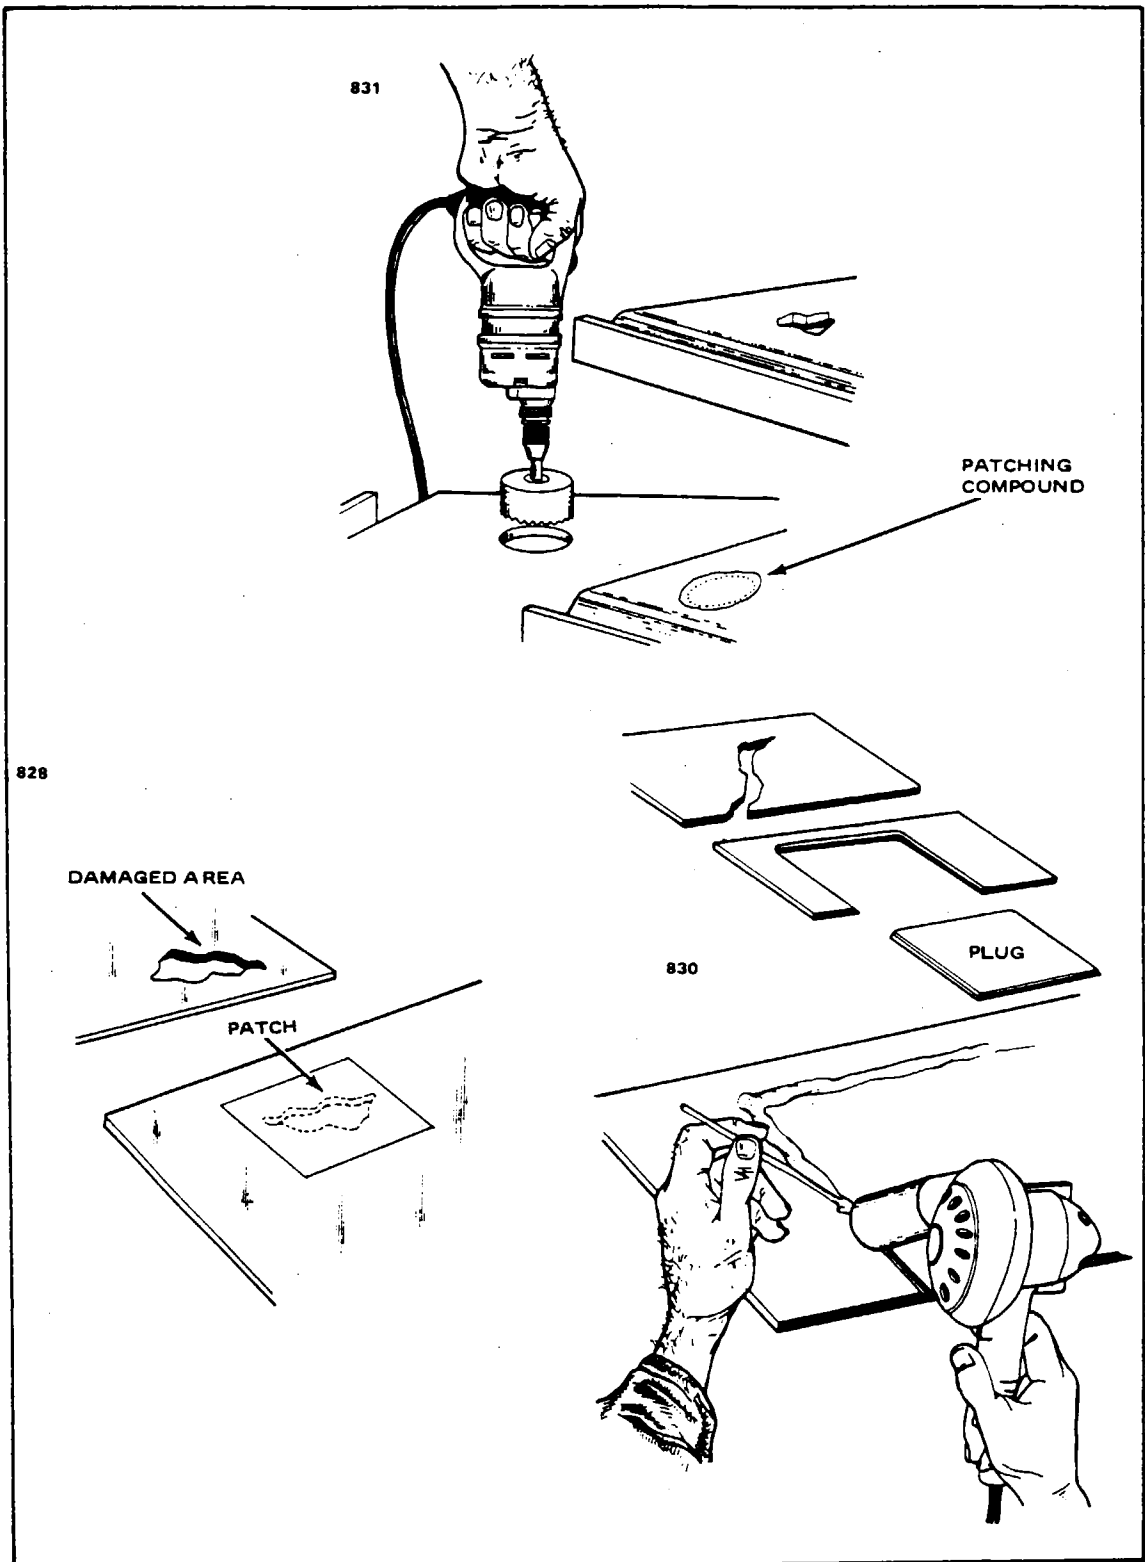

Figure 4-11. Various Repairs.
- e. Repairing Major Damage: (Larger than 1 inch in diameter.) (Refer to Figure 4-11.)